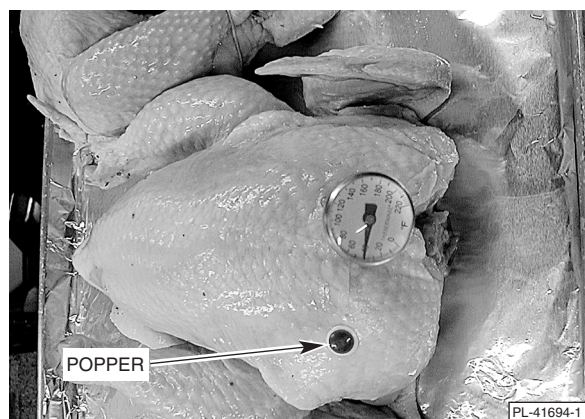

Fig. 16
- Check temperature of chicken; temperature should be between 37°F to 42°F (2.8°C to 5.6°C). Insert approved popper into chicken breast, if available. Popper will pop up when chicken is done (Fig. 16).